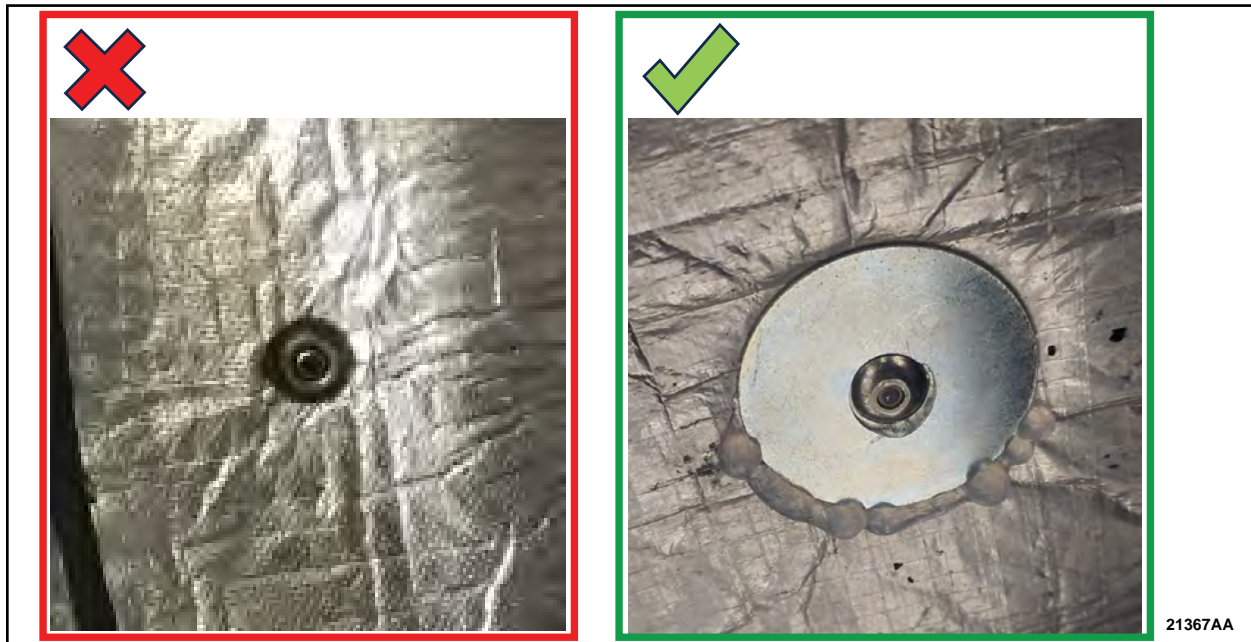

FIGURE 19
19. Using a 1/4" rivet gun, install the rivet and washer to the drilled hole. See Figure 19.